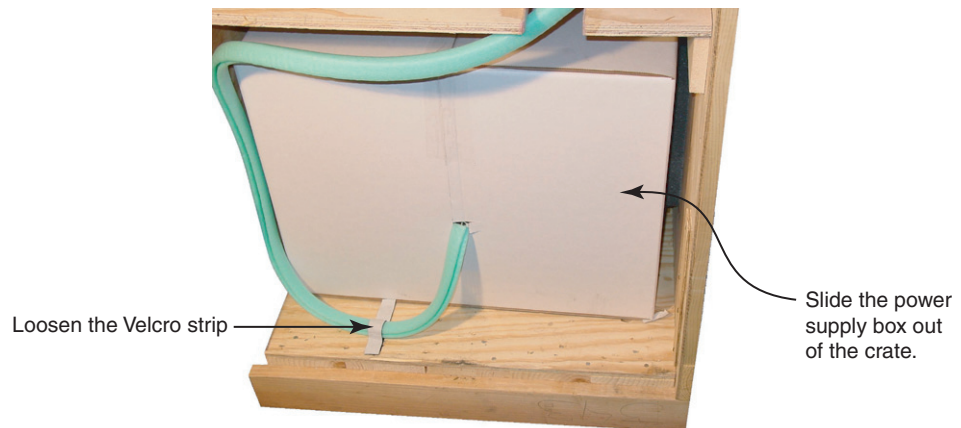

Figure 3: The Power Supply Box in the Crate
10. Slide the box containing the power supply from the lower compartment of the crate (Figure 3), again, being careful when handling the fiber-optic cable.